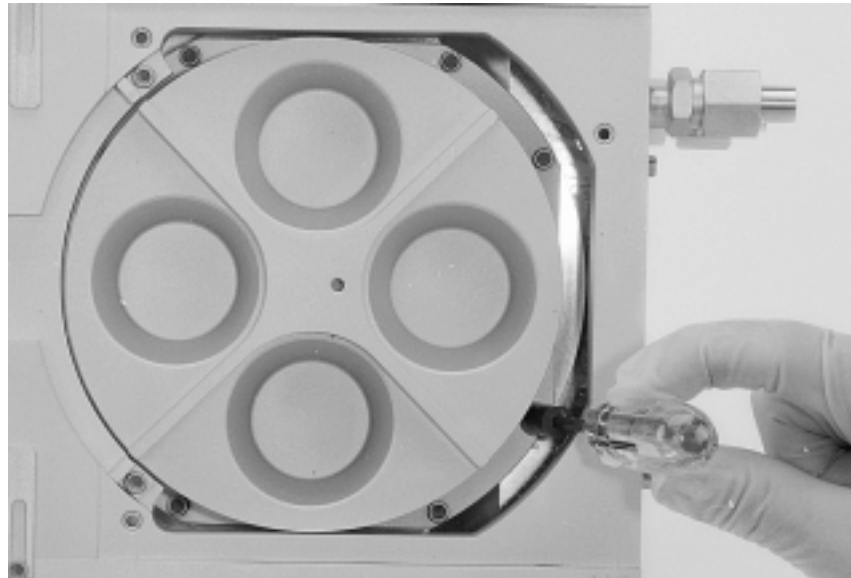

Figure 3-6. Removing the screws that secure the crucible to the crucible mounting flange
- 6 Remove the screws securing the crucible to its mounting flange. There are eight of these screws, and six of them will be accessible if you turn the crucible to the position shown in Figure 3-6. Perform the following steps in removing these screws: